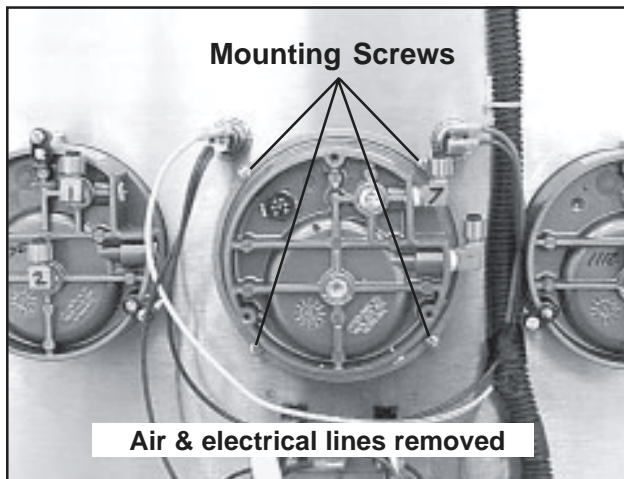

Figure 73. Photohelic Gauge - Mounting Screws
6. Loosen the four mounting screws (Figure 73) until the gauge is loose in the panel.
5. Screw in the four mounting screws (Figure 73) until the gauge is seated firmly in the panel. Again, make sure the gauge face is right-side up.